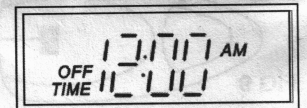

FIG 4
- When the timer is plugged into the outlet or the timer's battery is charged, the display will flash "12:00 AM" (FIG 4). Press "HR" & "MIN" (hour/minute) buttons respectively to set up the correct time. Hold down the buttons for rapid increments. Once the correct time is displayed, press the "TIME" button once to lock the setting.